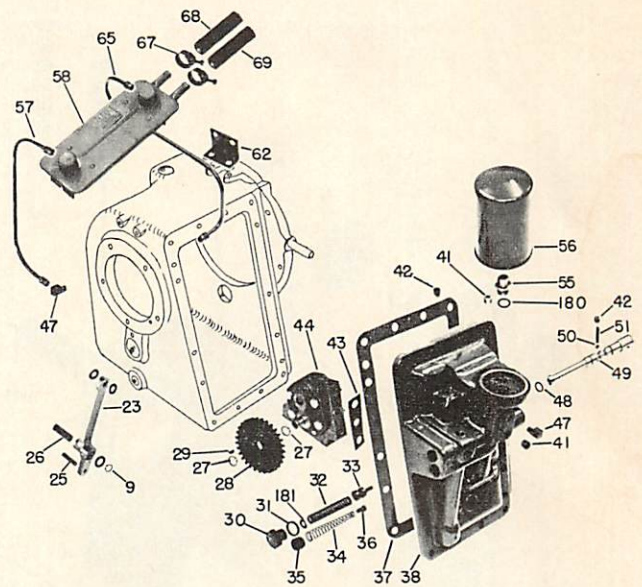

Fig. O106 — Exploded view of the early Hydro-Power drive cover showing component parts. Later cover assemblies are similar.
oil in Hydra-Power drive is at operating temperature. With oil warmed, operate engine at approximately 2000 rpm, place Hydra-Power Drive unit in direct drive and observe pressure gage. Gage should read 140-190 psi. If pressure is not as specified, and no malfunctions of the unit are evident, add shims (181—Fig. O106) behind the regulator valve spool spring to raise pressure. Shims are 0.0359 thick and each shim will raise the pressure approximately 5 psi.
157. **CONTROL VALVE SPOOL, REGULATOR VALVE AND BY-PASS VALVE.** The control valving can be removed from housing cover as follows: Remove the Allen plug (42—Fig. O106) on top side of control valve bore and remove detent spring (51) and ball (50). Pull control valve spool (49) forward out of its bore, then remove and discard "O" ring. Remove plugs, then remove regulator valve (33) and by-pass valve (36) assemblies. Save any shims (181) which may be present behind the regulator valve spring.